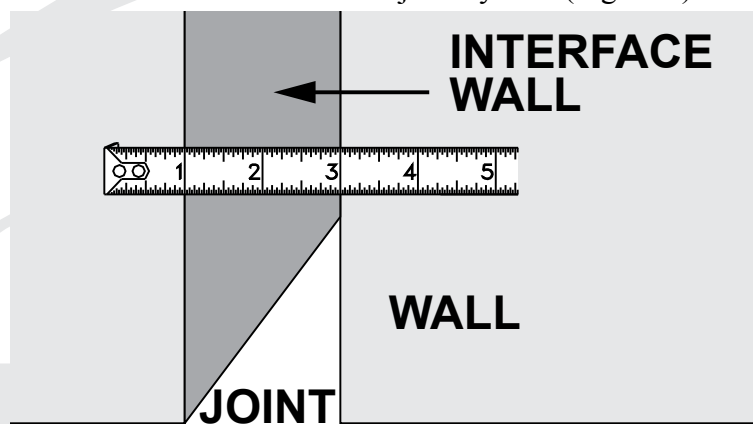

Figure 3—Measuring the Joint Size
4. Measure the joint opening and verify that you have the correct size for the joint system (Figure 3).